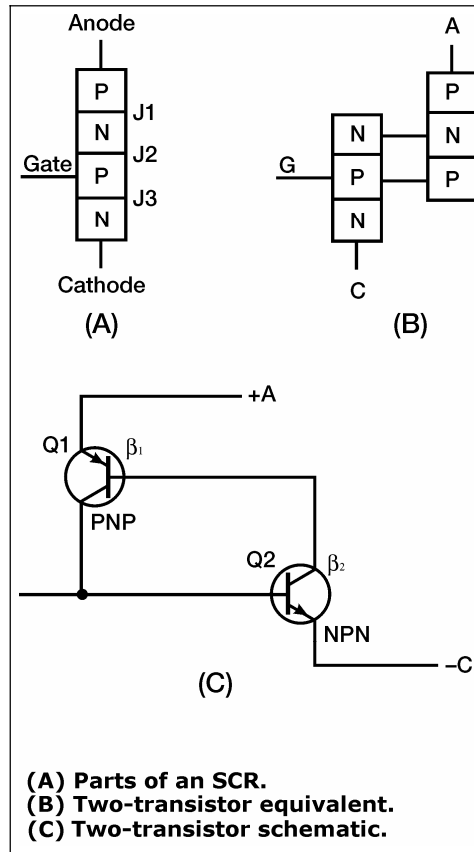

Figure 3-18. SCR Structure
3-38. The SCR is made up of four layers of semiconductor material arranged PNPN (see Figure 3-18, view (A)). In function, the SCR has much in common with a diode. However, the theory of operation of the SCR is best explained in terms of transistors.
3-39. Consider the SCR as a transistor pair, one PNP and the other NPN (see Figure 3-18, view B). The anode "A", is attached to the upper P-layer; the cathode "C", is part of the lower N-layer; and the gate terminal "G", goes to the P-layer of the NPN triode.
3-40. In operation (see Figure 3-18, view C)) the collector of Q2 drives the base of Q1, while the collector of Q1 feeds back to the base of Q2. β_1 (Beta) is the current gain of Q1 and β_2 is the current gain of Q2. The gain of this positive feedback loop is their product ($\beta_1 \times \beta_2$). When the product is less than one, the circuit is stable; if the product is greater than unity, the circuit is regenerative. A small negative current applied to terminal G will bias the NPN transistor into cutoff, and the loop gain is less than unity. Under these conditions, the only current that can exist between output terminals A and C is the very small cutoff collector current of the two transistors. For this reason the impedance between A and C is very high.